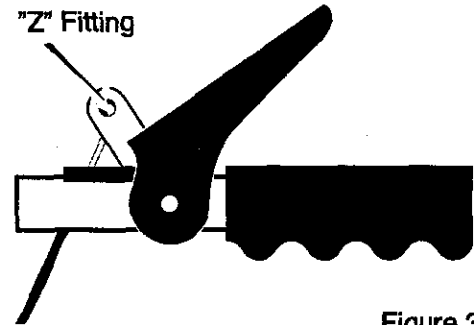

Figure 32
**To check for correct adjustment, unhook "Z" fitting at clutch lever (see Figure 32).**
5. Disconnect the "Z" fitting from the drive lever (see Figure 32).
11. Install the "Z" hook to the traction drive lever (see Figure 32).